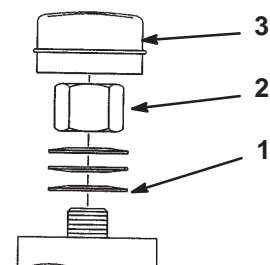

Figure 49
2. Remove dust cap from caster and tighten lock nut (Fig. 49).
3. Tighten until spring washers are flat and then back off a 1/4 turn to properly set the pre-load on the bearings (Fig. 49).
Important Make sure spring washers are installed correctly as shown in figure 49.